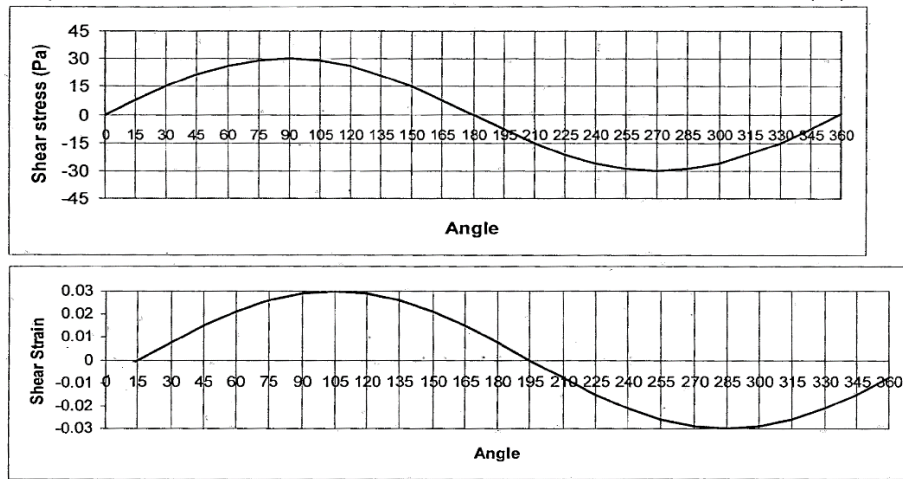

Figure 1: Dynamic Shear Rheometer test results
- Q2.** The graphical results of a Dynamic Shear Rheometer test conducted on PG 64-28 binder are shown in Figure 1. Determine the rutting parameter of the binder. The angle is provided in degrees. **[5 Marks]**